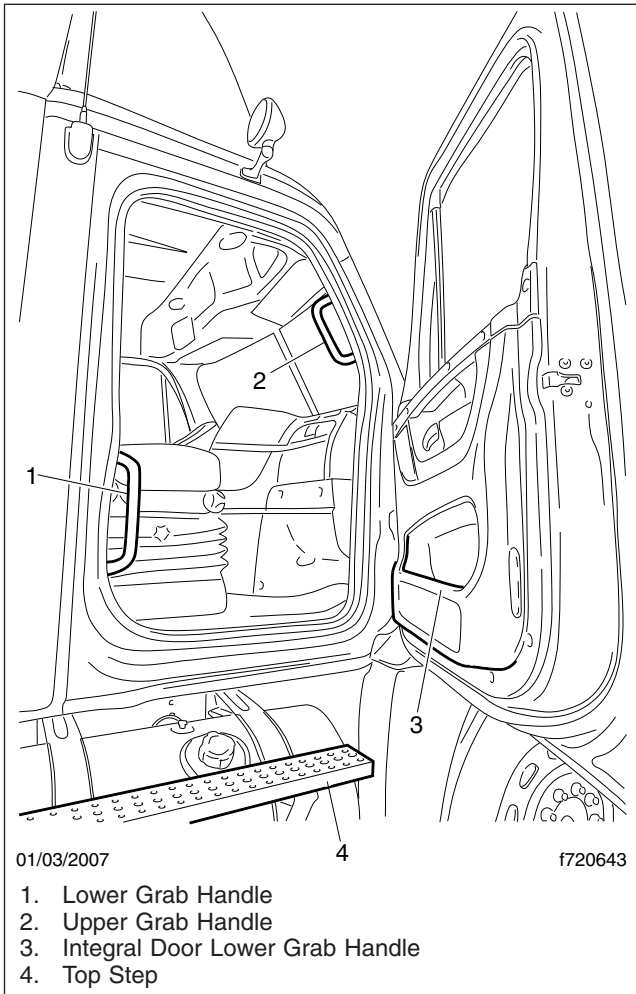

Fig. 2.4, Passenger-Side Steps and Grab Handles
- Using your left hand, grasp the grab handle that's on the rear of the door opening. See Fig. 2.4.
- Move your left hand to the lower grab handle located at the rear edge of the door opening. See Fig. 2.4.